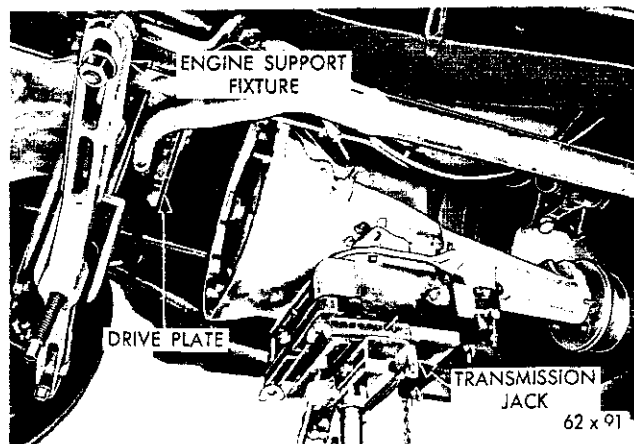

Fig. 44—Removing or Installing Transmission and Converter Assembly
(18) Remove the engine rear mount insulator to extension housing bolts.
(19) Install the engine support fixture, Tool C-3487 and raise the engine slightly.
(20) Remove the crossmember attaching bolts and remove crossmember.
(21) Place the transmission service jack under the transmission to support the assembly.
(22) Attach a small "C" clamp to edge of converter housing to hold converter in place during removal of transmission.
(23) Remove the converter housing retaining bolts. Carefully work the transmission rearward off the engine block dowels and disengage converter hub from the end of crankshaft (Fig. 44).
(24) Lower the transmission jack and remove the transmission and converter assembly.